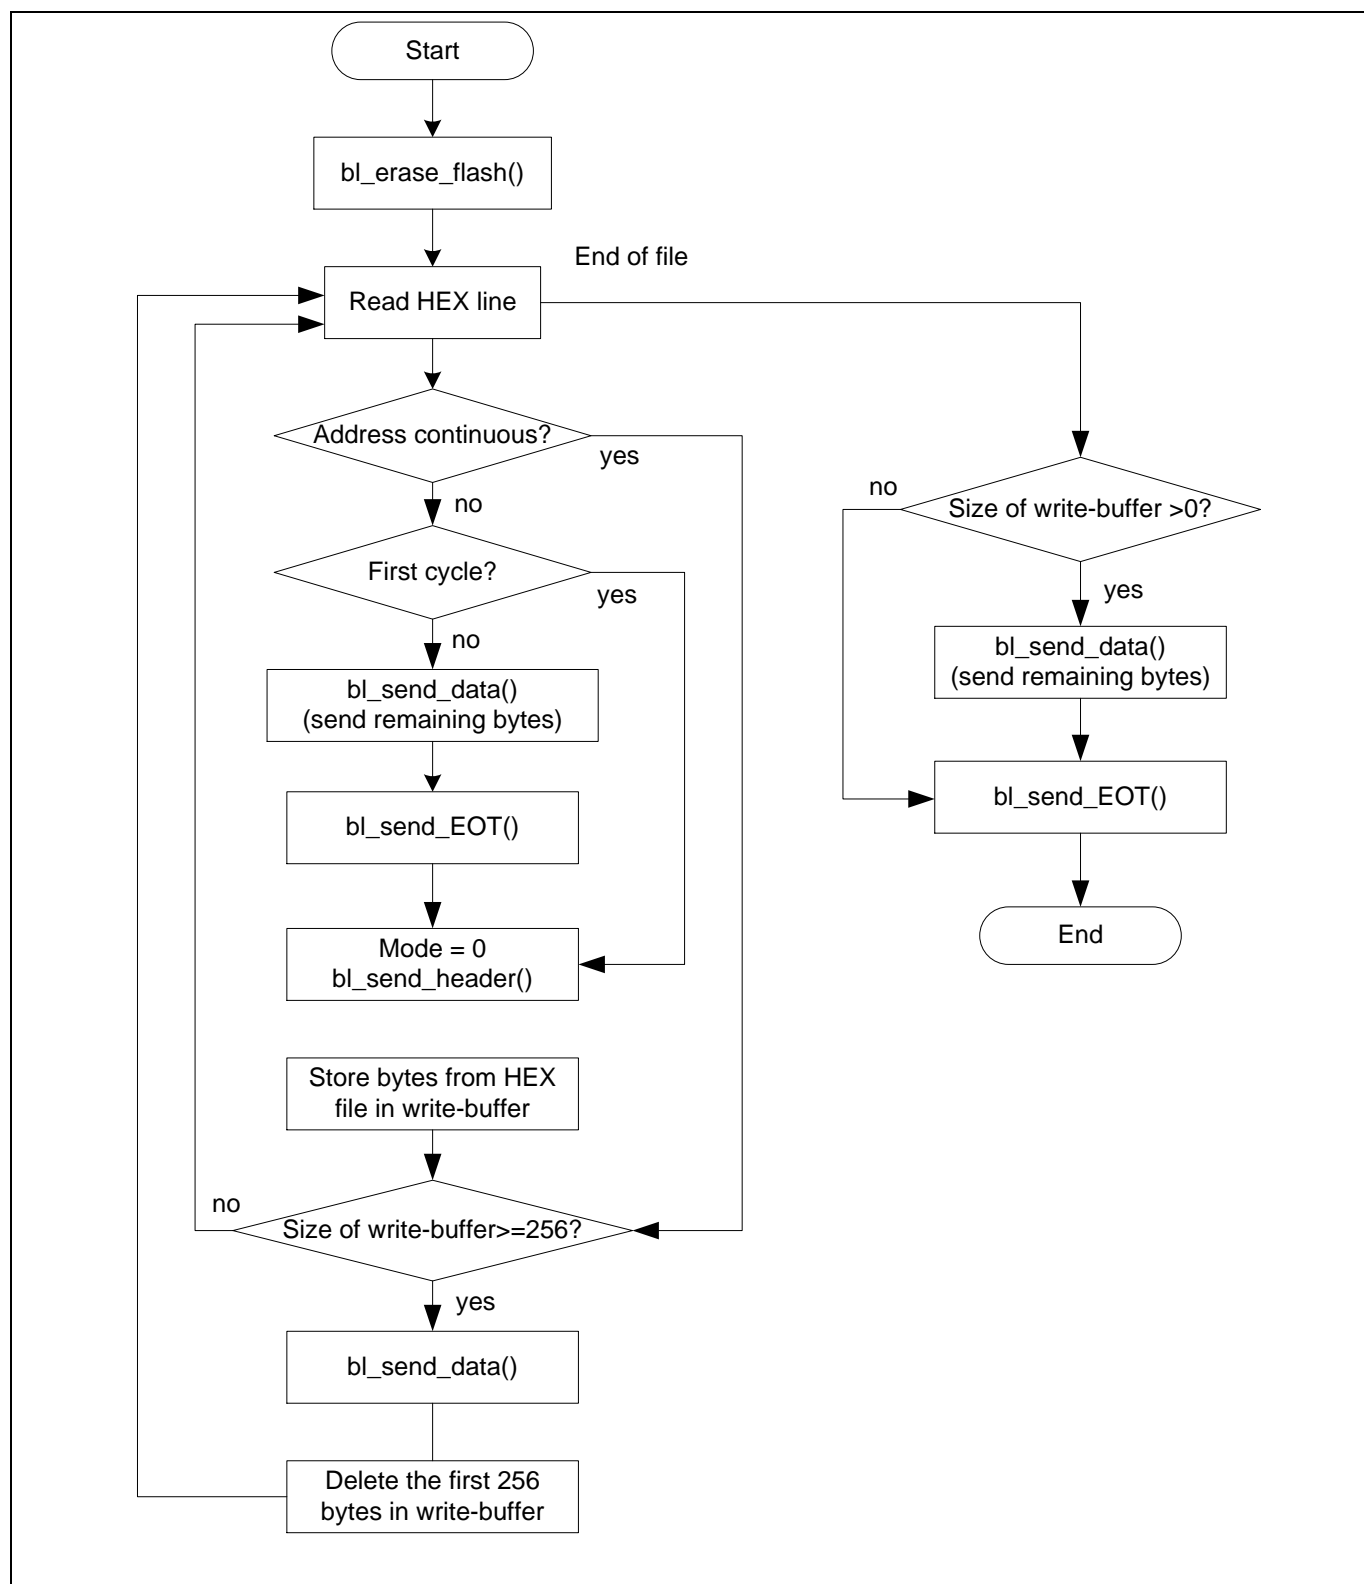

Figure 8 Flash programming procedure implemented in bl_download_flash()
- The flash programming procedure is implemented in `bl_download_flash()` shown in Figure 8.